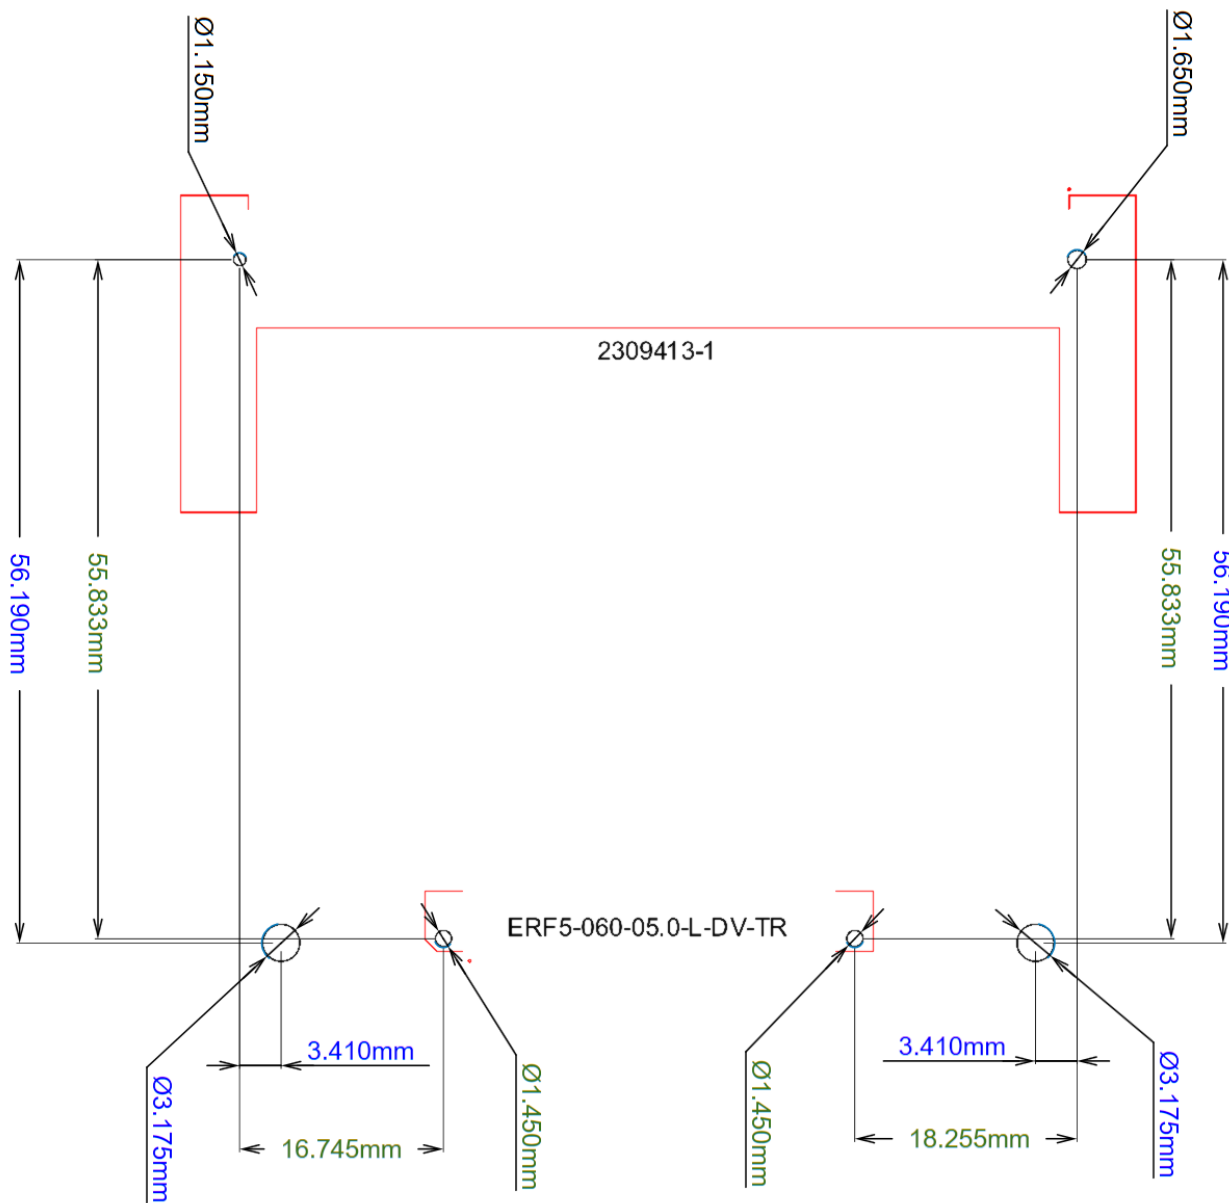

Figure 3: MitySOM-C10G -- fastener mounting holes, 120-pin bottom side secondary connector locations
The mechanical outline of the MitySOM-C10G is illustrated in Figure 3 and shows the location of the bottom side-mounted 120-pin fine-pitch plug-type connector (identified as ERF5-060-05.0-L-DV-TR) and placement of the mounting holes. *Note: MitySOM-C10L does not require the secondary 120-pin connector.*
- MitySOM-C10L fastener mounting holes are placed 30.0 mm closer to SO-DIMM card-edge receptacle (on Y or vertical axis in Figure 3): at 26.190 mm (blue measurement) from reference point.